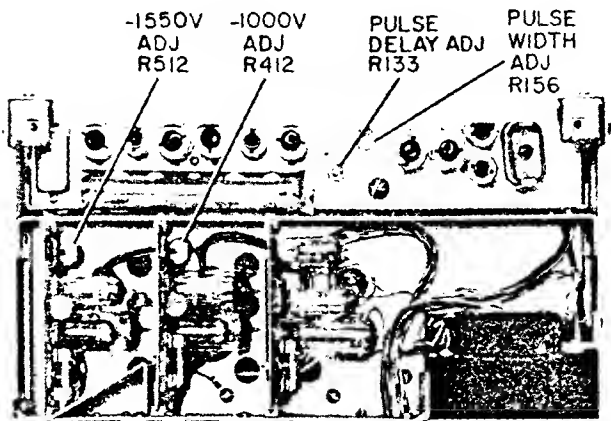

Figure 5-7. Location of Power Supply and Modulator Adjustments
- e. Adjust potentiometer R412 (Figure 5-7) for  $-1000 \pm 20$  volts. Line voltage regulation ( $115\text{ V} \pm 10\%$ ) should hold the  $-1000\text{ V}$  supply to within  $\pm 5\text{ V}$ ; ripple should be less than 10 mV, p-p. The  $-300\text{ V}$  supply could track the  $-1000\text{ V}$  supply to  $-300 \pm 10\text{ V}$ . Line voltage regulation ( $115\text{ V} \pm 10\%$ ) should hold the  $-300\text{ V}$  supply to within  $\pm 5\text{ V}$ ; ripple should be less than 10 mV, p-p.
- g. Adjust potentiometer R512 (Figure 5-7) for  $-1550 \pm 20\text{ V}$ . Line voltage regulation ( $115\text{ V} \pm 10\%$ ) should hold the  $-1550\text{ V}$  supply to within  $\pm 5\text{ V}$ ; ripple should be less than 15 mV, p-p.
d. Adjust potentiometer R133 (Figure 5-7) to give a delay of 300  $\mu$ s as measured on the calibrated Oscilloscope.
d. Adjust potentiometer R156 (Figure 5-7) so that width of pulse of 10  $\mu$ s as measured on the Oscilloscope.